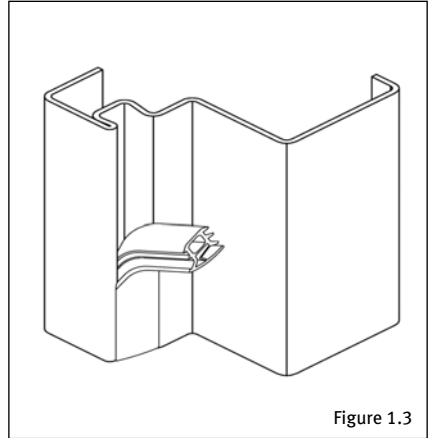

Figure 1.3
3.7 Press the rubber seal into frame groove (3 sides on the door/4 sides on the flap) by hand so that the frame sealing wedge meets at the corners (avoiding substantial tension) (Figure 1.3). Check how the latch and bar catch and file the closing opening in the frame if needed.
- 5.9 Insert the rubber seal into frame groove (3 sides on the door/4 sides on the flap) (avoiding substantial tension) (Figure 1.3). Check how the latch and bar catch and file the closing opening in the frame wherever necessary. Then grease the latch slightly.